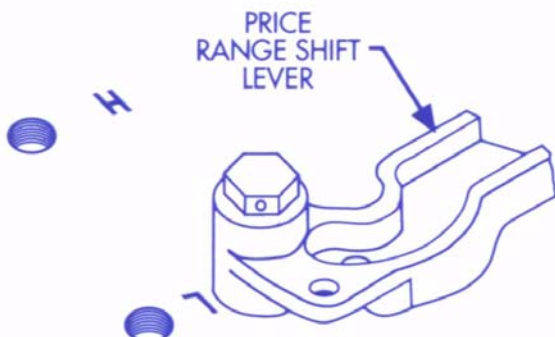

FIGURE 3
- 3) Set price range shift lever in the "L" or "1/10" position (see Figure 3).
- 3) Set price range shift lever in the "L" OR "1/10" position (see Figure 3).
- 3) Set price range shift lever position to the "L" or "1/10" position (see Figure 3).
- 3) Set price range shift lever clockwise in the "H" position or "1" position (see Figure 3).